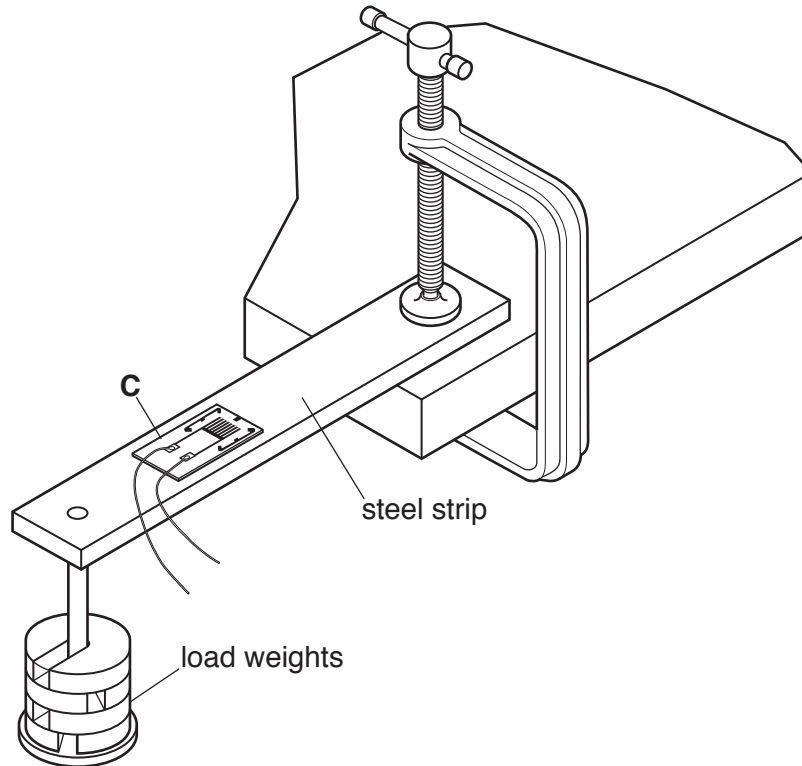

Fig. 4
- 8 (a) Fig. 4 shows a steel strip in a test rig.